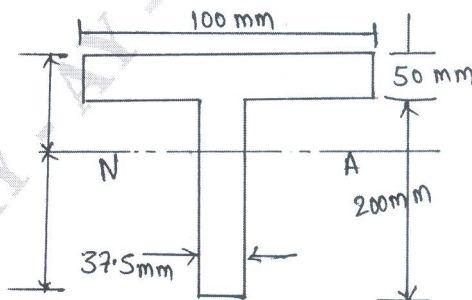

Fig.Q.7(b)
- b. The T-section of a beam is shown in Fig.Q.7(b). Determine maximum moment of resistance that beam can support if yielding is to be avoided. The material of the beam has yield strength of 250MPa. (10 Marks)